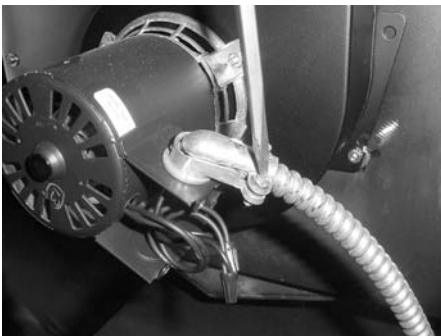

Figure 2-46
5. Loosen conduit from blower motor. Figure 2-46.